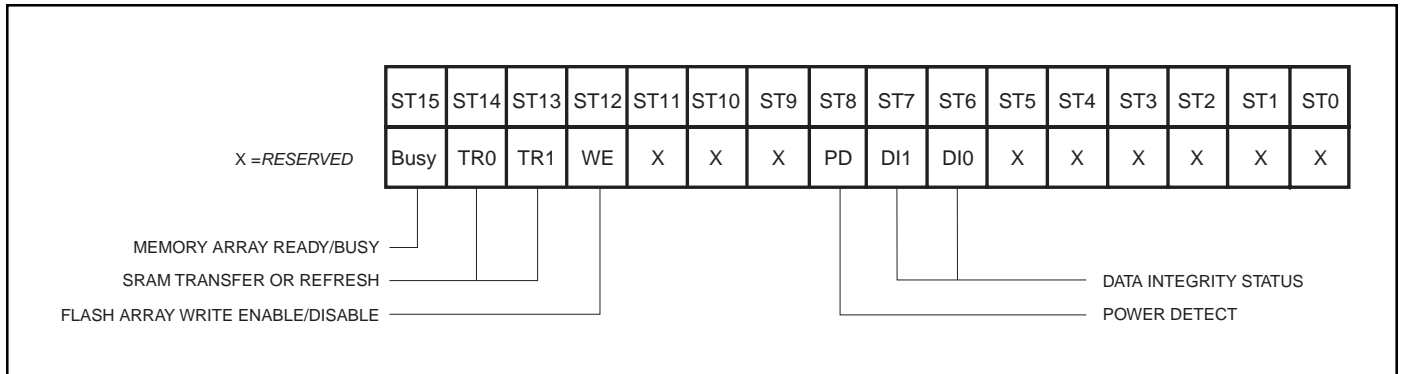

Figure 6. Status Register Bit Locations
The status register provides status of the Flash array’s Ready/Busy condition (R/B), transfers between the SRAM and program buffer (TR0 and TR1), Write-Enable/Disable (WE), Compare Not Equal (CNE), Power Detect (PD) and Data Integrity status (DI0 and DI1). The register can be read using the Read Status Register command (Figure 6).
The *Read Status Register* command provides access to the status register and its status flags for Ready/Busy (R/B), SRAM buffer transfer operations (TR0 and TR1), Write Enable/Disable (WE), Power Detect and Data Integrity bits (Figure 6). An 16-bit Status field ST[16:0] provides the contents of the Status Register.